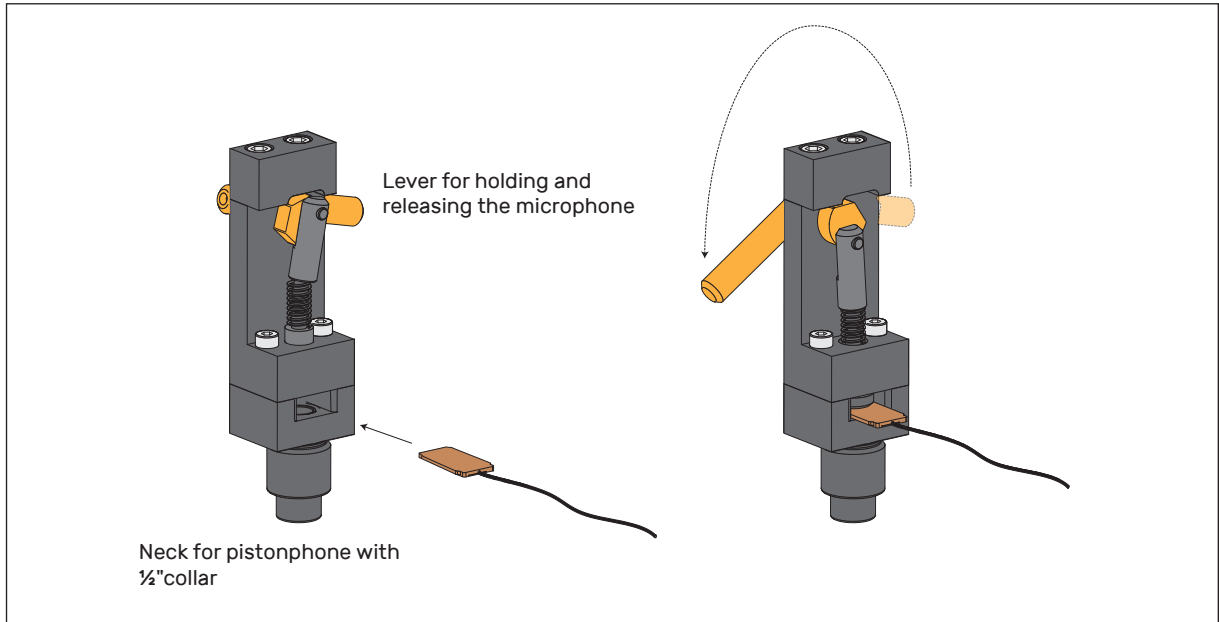

Fig. 9. Mounting a UTP microphone in the RA4801 Adapter for sensitivity calibration of 48LA/48LX-1.
3. While holding the calibrator-adapter assembly at the top with one hand, insert the microphone into the slot with the backside turned upwards, as shown in Fig. 9.